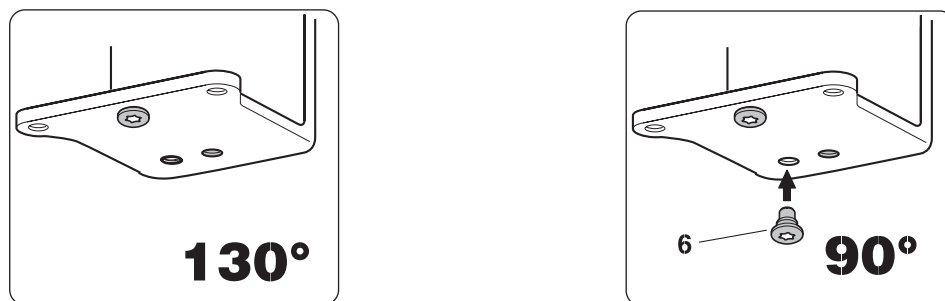

Figure 15
- **Insert** attached screw (6) in the **lower** hinge as shown in **Figure 15**.